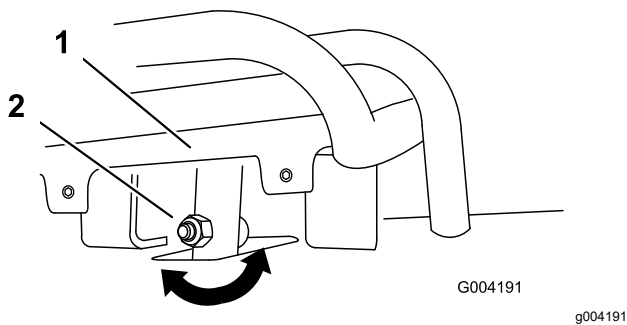
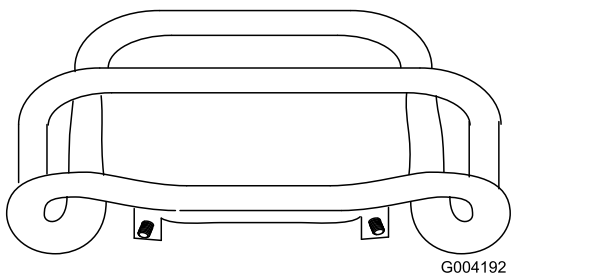

Figure 52
Figure 53
4. If the front of the traction control does not rest square and flush with the reference bar, loosen the nut and bolt in the stem of the traction control (Figure 52).
5. Adjust the traction control so that it rests flush against the reference bar when it is pulled straight back (Figure 52 and Figure 53).
- C. Loosen the flange nut and bolt in the stem of the traction control (Figure 52).
- I. Adjust the traction control so that it rests flush against the reference bar when it is pulled straight back (Figure 52 and Figure 53).